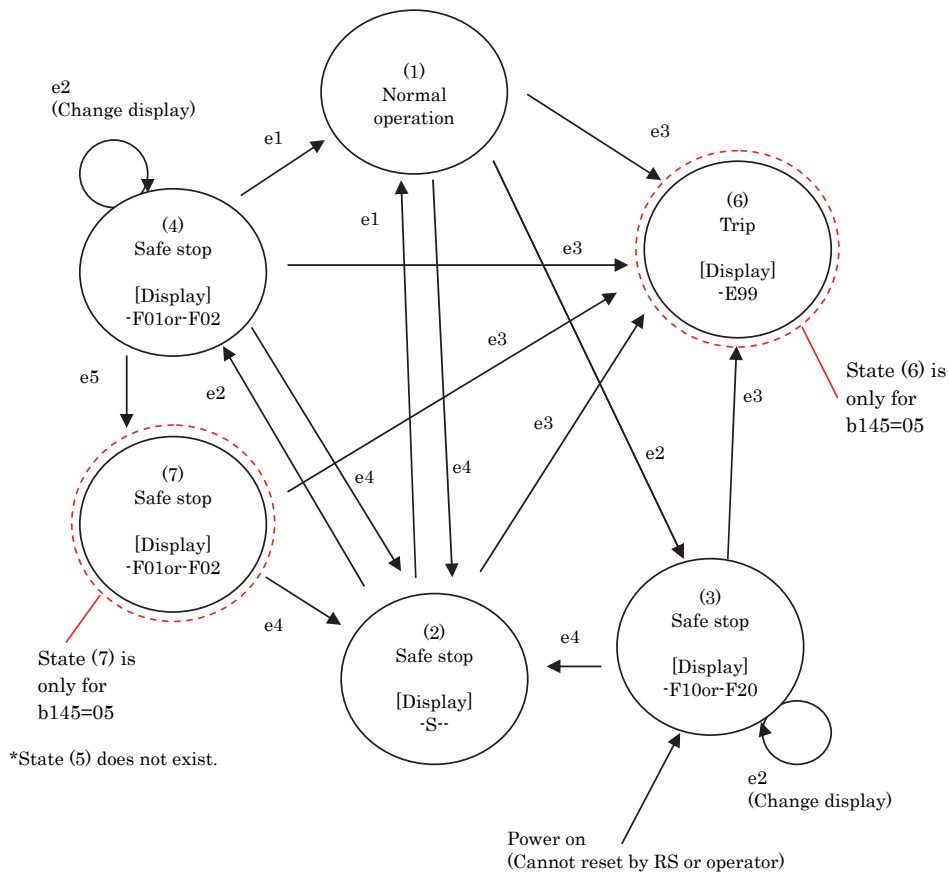

Fig. Ver.3.1-2 State transition diagram
b146 can adjust the delay time that specifies time to transit from state (4) to state(7) depicted in fig. Ver.3.1-2. This parameter is valid only when b145=05. Once the state transits to state (7) in fig. Ver.3.1-2, it is necessary to active (open) both GS1 and GS2 again (to state (2)), and then deactivate (close) both GS1 and GS2 in order to return to normal operation (state (1)).
- The table Ver.3.1-4 below shows the newly supported monitor display content and error codes related to the parameter b145. Refer to table Ver.3.1-5 and fig Ver.3.1-2 together.
\*3: Refer to fig. Ver.3.1-2 state transition diagram, for the details of each state.